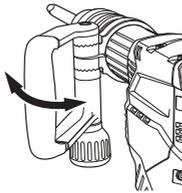
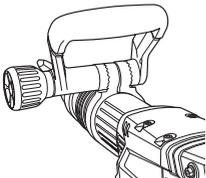
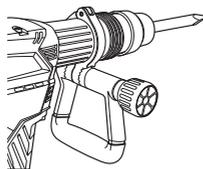

Fig. 5
Fig. 6
Fig. 7
(2) Adjust it to a position where vertical (up-and-down) operation can be facilitated as illustrated in Fig. 5, Fig. 6 and Fig. 7.
(3) Turn the grip in the direction of ⓑ and fix the handle.